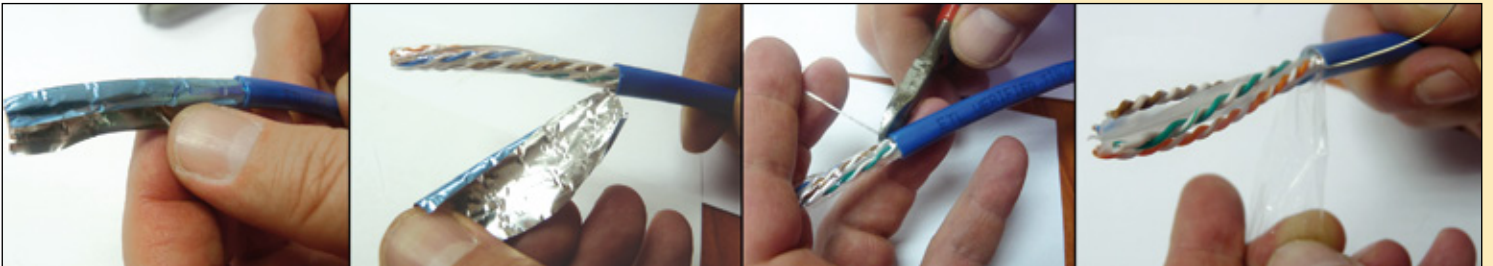

Figure 6
- 5 Proceed to strip the aluminum foil shield and the jacket and put the drain wire aside for later connection to the grounding pin of the connector as shown in Figure 6.